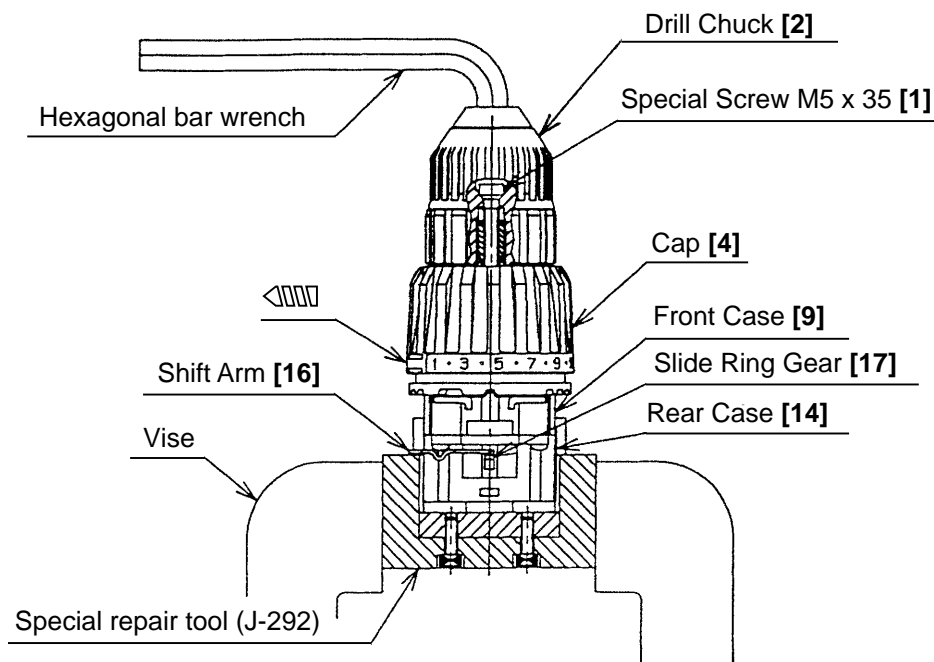

Fig. 4
(2) After Housing (B) **[31]** has been removed, all the internal parts, assembled or separate, can be taken out as they are. Lift the entire contents from Housing (A) **[31]** while holding the Motor **[25]** and Cap **[4]**.
(3) Removal of the Drill Chuck **[2]** (See Fig. 4.)
(b) Attach the motor spacer (an accessory of the special repair tool J-292, Code No. 316379) to the assembly of the Drill Chuck **[2]**, Cap **[4]**, Front Case **[9]** and Rear Case **[14]** and then mount it in special repair tool J-292 clamped in the vise as illustrated in Fig. 4. In this operation, check that the pinion press-fitted in the special repair tool J-292 and Planet Gear (A) **[21]** are engaged properly.
(e) Fit the hexagonal bar wrench M10 into the Drill Chuck **[2]** as illustrated in Fig. 4 and remove the Drill Chuck **[2]** by turning the hexagonal bar wrench counterclockwise.